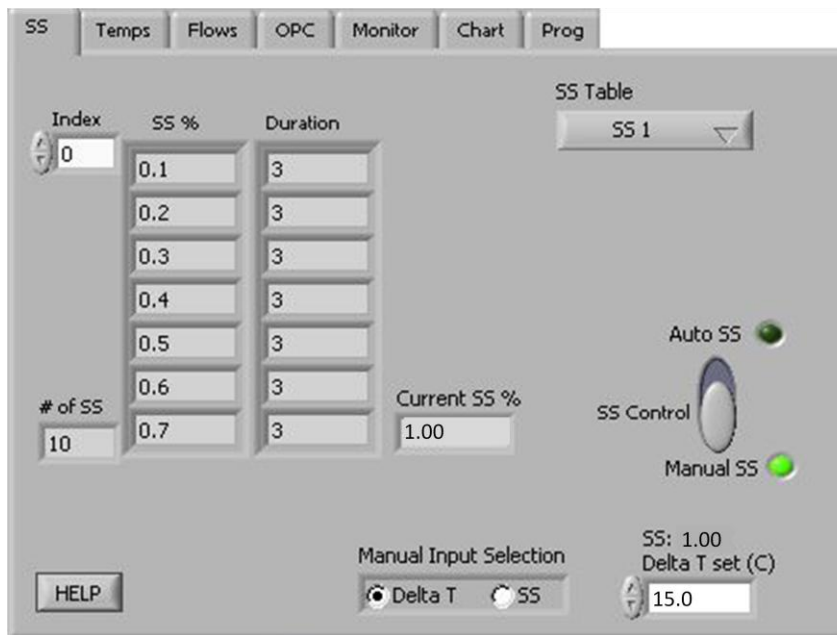

Figure 26: Supersaturation (SS) Settings Tab Display in Manual SS Mode
Note: **Current SS#** and **Seconds until SS change** are not visible when **Manual SS** mode is turned on. See Figure 26.
Input Selection radio button (Figure 26, bottom middle) specifies whether the user will enter Delta T Set (C) or enter the supersaturation directly. If the manual input selection is Delta T Set (C), an **SS** indicator will appear above the **Delta T set (C)** control (bottom right), which enables the user to quickly see what SS% the currently selected Delta T Set (C) is equal to. The default value for Delta T Set (C) is the last setting the program was previously running when **Auto SS** mode is switched off. Note that while the SS Table remains visible during **Manual SS** mode, the program is not using it.